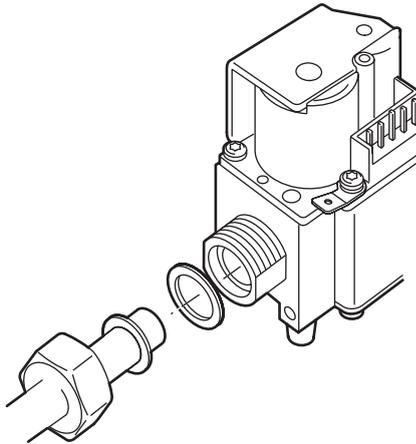

Fig. 4. External thread connection with nut and "O"-ring
④ With 3/4" nut and "O"-ring (see fig. 4.)